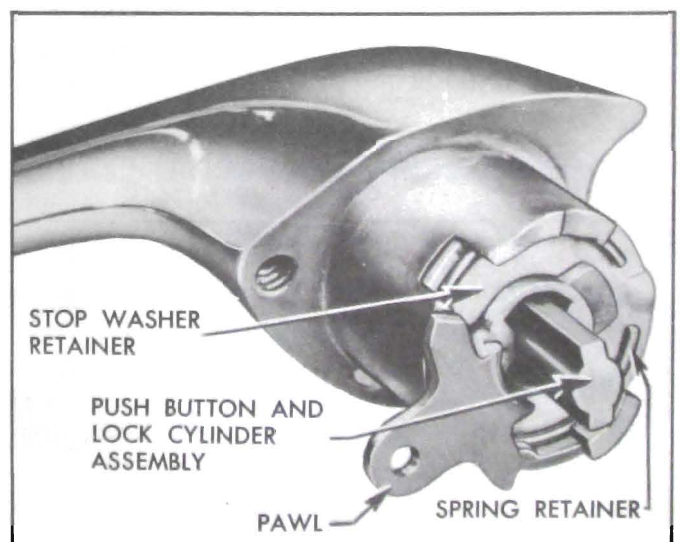

Figure 13-208—Front Door Outside Handle Assembly—Two-Door Models
3. (a) To assemble door outside handle assembly on two-doors first engage pawl to stop washer retainer; then reverse above procedure making certain open end of spring retainer is located at nipple on stop washer retainer. Figure 13-208 shows handle assembled.